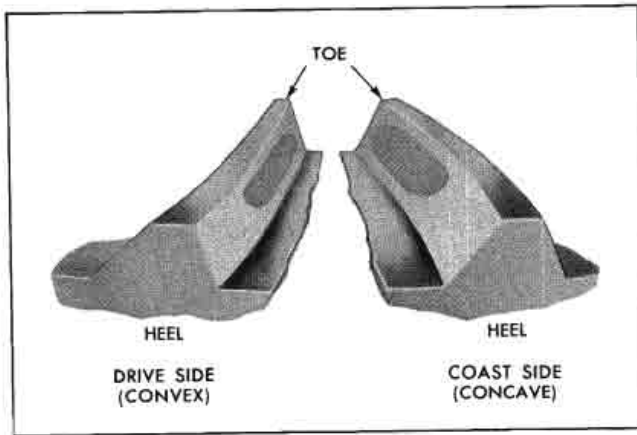

Fig. 4-25 Desired Tooth Contact Pattern Under Light Load
6. Observe pattern on ring gear teeth and compare with Fig. 4-25.
When "load" on ring and pinion gear is increased, such as when car is accelerated from standstill or from normal drive, the tooth contact will tend to spread out, and under very heavy load will extend from near toe to near heel. The entire contact also tends to shift toward heel under increasingly heavier loads and will become somewhat broader with respect to tops and bottoms of teeth. The patterns obtained by red lead test, dependent upon degree of "loading", approximate a normal light load, and for this reason will not cover the entire face of the ring gear, but will extend only about halfway (Fig. 4-25). The important thing to note is that the contact pattern is centrally located up and down on the face of the ring gear.
If tooth contact pattern does not look exactly like those illustrated in Figs. 4-25 through 4-33, adjust backlash to several different values, from minimum to maximum, testing tooth contact after each adjustment. By this means, a pattern should be found which will look similar to one of those illustrated in the above figures.